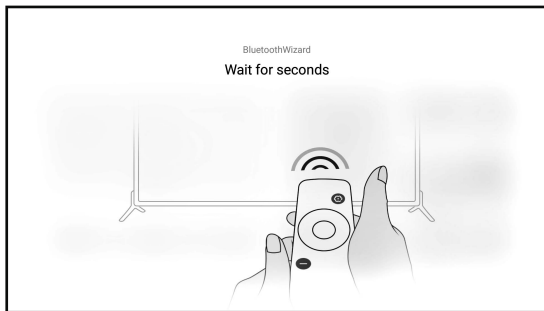

Fig 7 Matching
- d. When the remote control indicator lights up for long and the screen will display as Fig 7, loosen the keys and wait for connection;